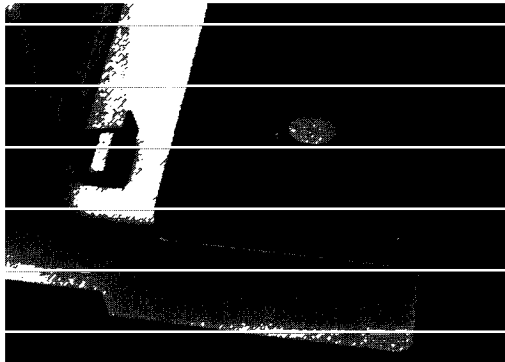

Figure 4.6
1. Depress the blue Paper Edge Guide Control Button and rotate the Paper Edge Guide so the word "COVER" faces the right side of the machine (Figure 4.6). Be sure that the Paper Edge Guide locks into the "Home" 11" position.